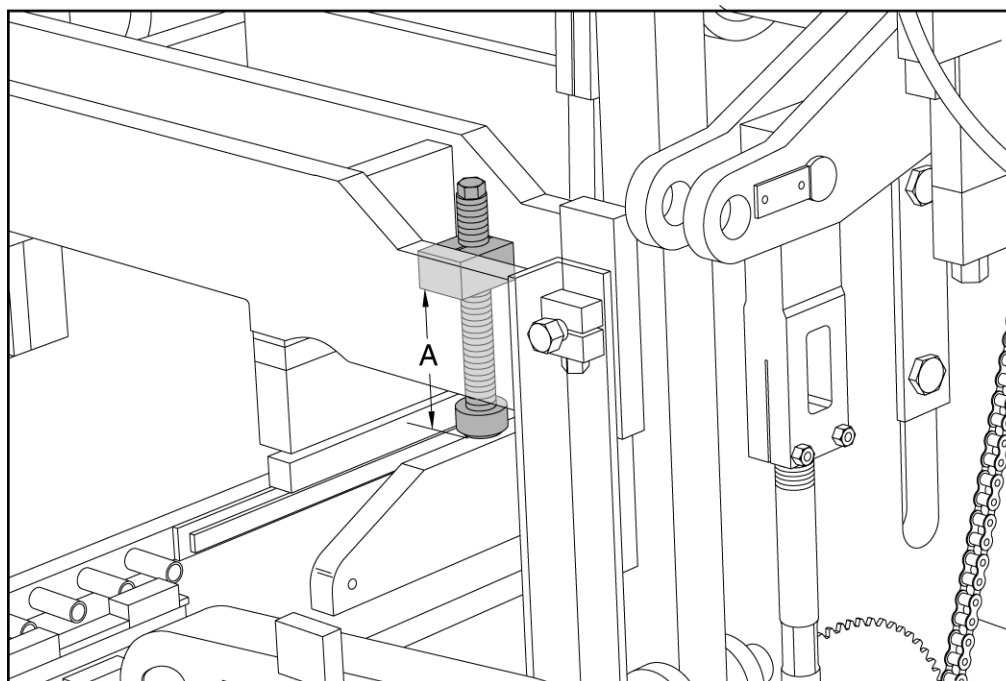

Figure 4.29 SHOCK ABSORBERS ADJUSTMENT
4.2.7 Adjust the shock absorbers to a dimension **7 7/16" [189mm]** (represented by "A" in figure 4.29) from the bottom of the clamp blocks to the bottom of the rubber pads.